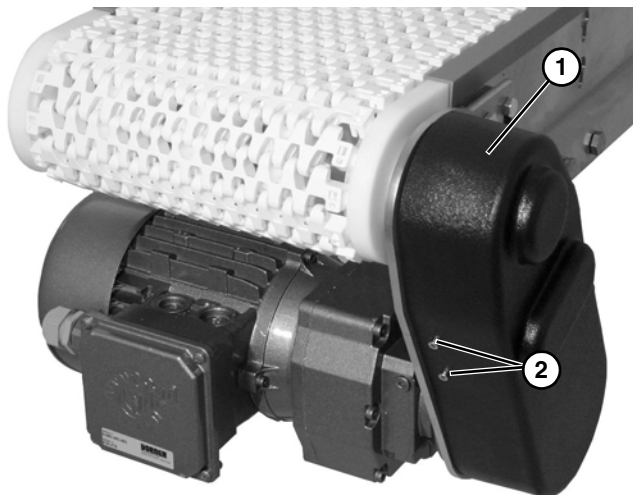

Figure 17
7. Install cover (**Figure 17, item 1**) with four screws (**Figure 17, item 2**). Tighten screws to 35 in-lb (4 Nm).